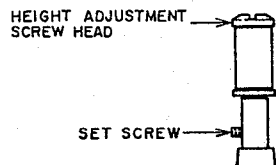

Fig. 4-11
1) Slightly loosen the set screw at the lower part of the LOADING LEADERS (L), (R) so that the LOADING LEADER can be adjusted with reasonable tightness. (Refer to Fig. 4-11.)